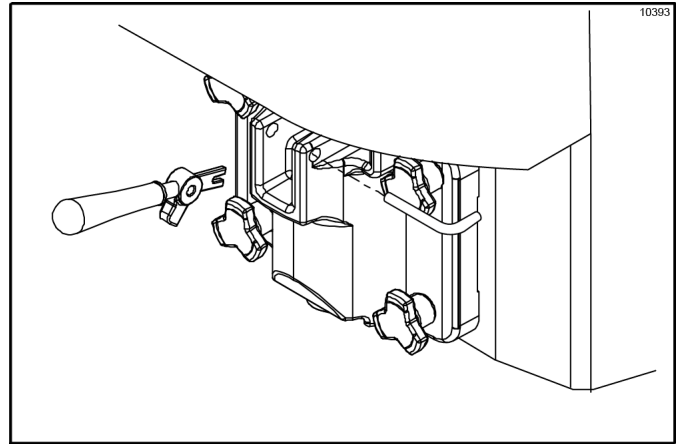

Figure 6-25
15. Install the (white) draw handle. Secure it with the pivot pin. (See Figure 6-25.)